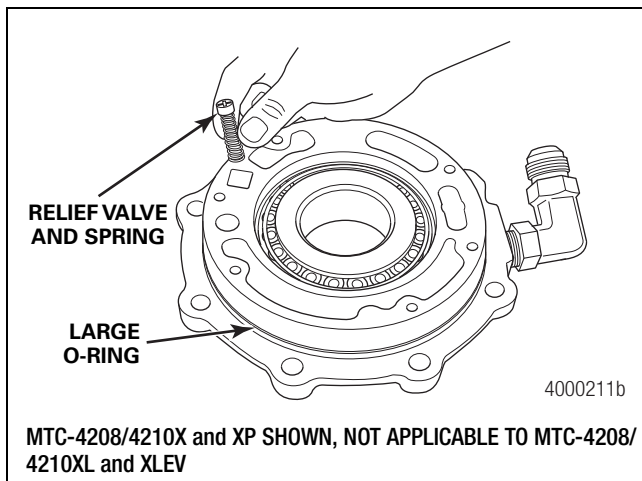
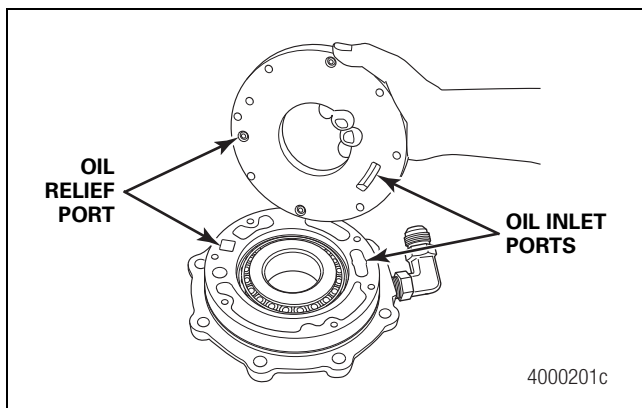

Figure 6.7
Figure 6.8
2. Place the large O-ring around the groove on the bearing cage. Figure 6.7.
- A. **MTC-4208X/XP and MTC-4210X/XP transfer cases only:** Pack lithium-complex grease, Meritor specification O-668, into the pump oil inlet port before assembling the oil pump to the input bearing cage. Figure 6.8.
- C. **MTC-4208X/XP and MTC-4210X/XP transfer cases only:** Insert the relief valve and spring into the relief port of the input bearing cage. Install the large diameter end of the spring down. Figure 6.7. Align the oil pump inlet with the oil inlet port of the input bearing cage. Figure 6.8.